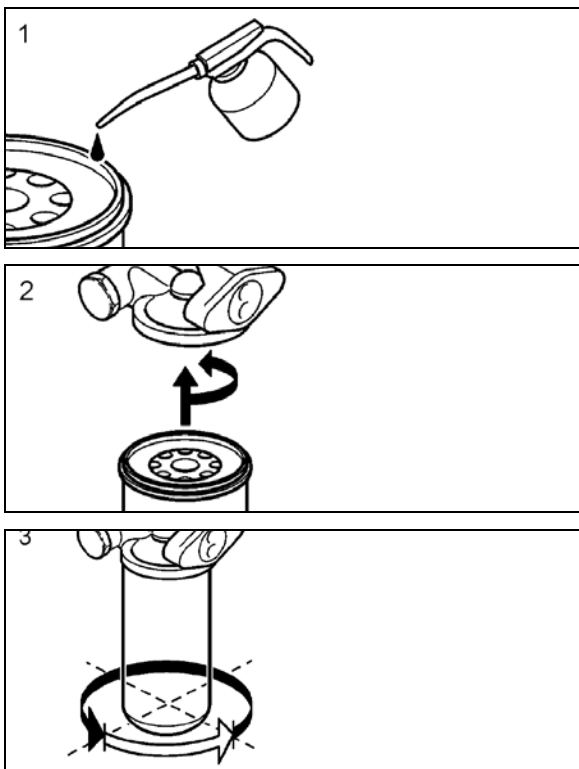

FIGURE 9: OIL FILTER REPLACEMENT
- Prefill the new oil filters with approved engine oil. Refer to Figure 9, also, lubricate the filter gaskets with engine oil (1). Hand tightens the oil filters until they contact the sealing surface of the oil filter housing (2). Manually tighten the oil filters an additional 3/4 to 1 full turn (3).